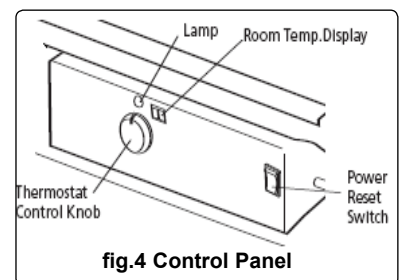

fig.4 Control Panel
5.1.4 Turn the thermostat control knob (fig.4) to the desired temperature setting. The heater has a range from 4°C to 43°C. Press the power switch to the "ON"(I) position. The lamp and the room temperature display will illuminate and the heater will start.